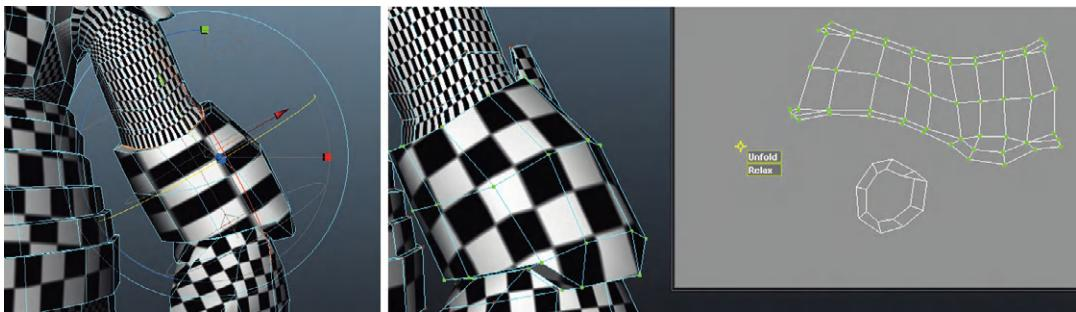

FIG. 5.47 Using Cylindrical Mapping
Step 26: Use this new understanding of the Cylindrical Mapping Tool for areas like wrist armor (Fig. 5.47). Remember to select the faces, activate the projection with Polygons>Create UVs > Cylindrical Mapping, and then use the manipulator handles to rotate the projection into place to effectively wrap the shape. Don't forget to use the Smooth UVs Unfold Tool.